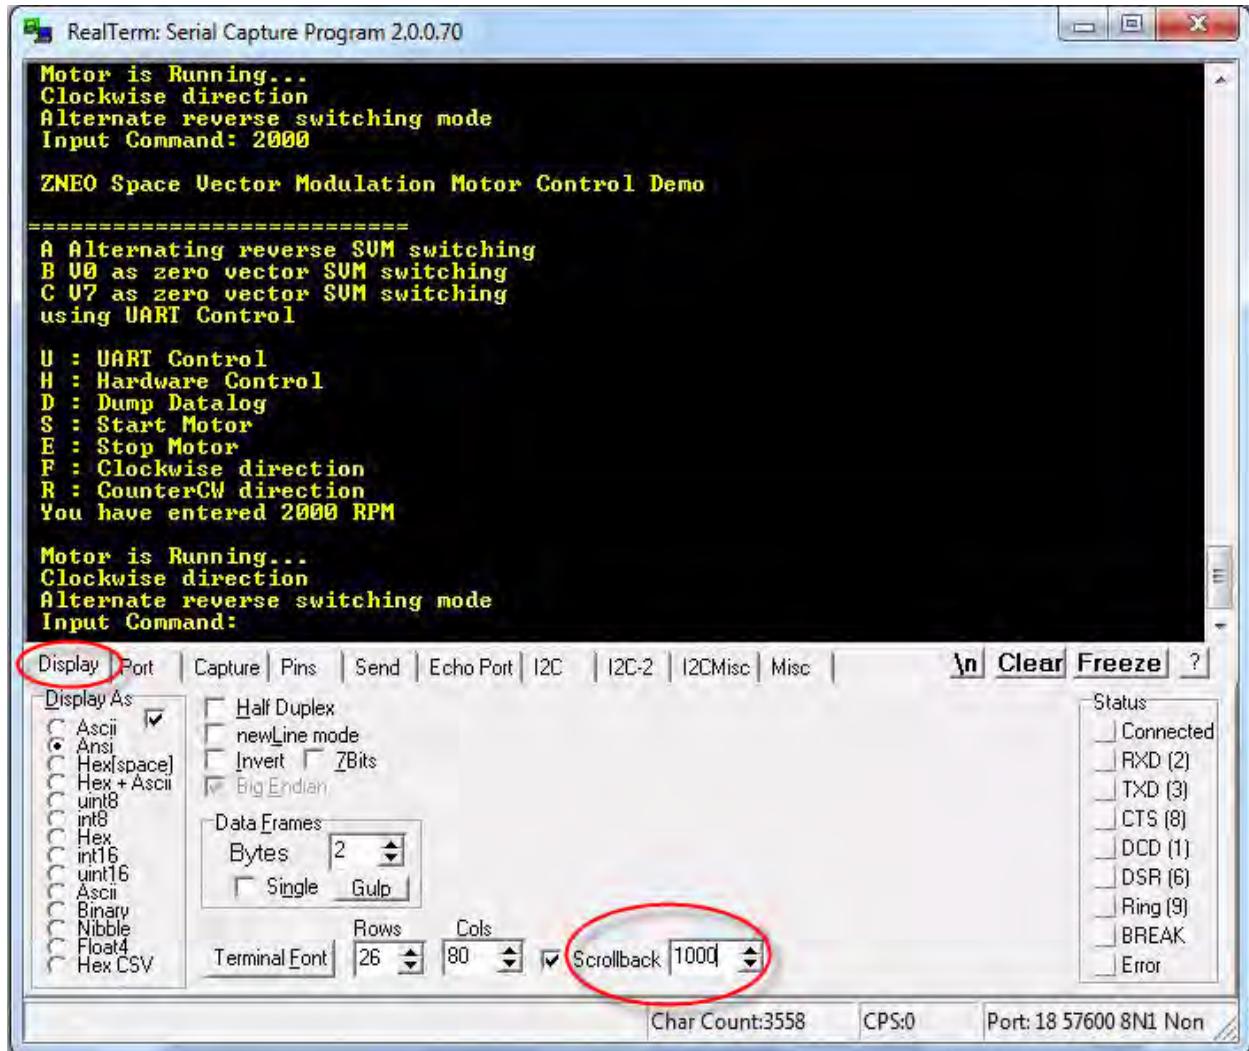

Figure 4. Select 1000 in the Scrollback Window Under Display Tab
10. In the **Scrollback** drop-down menu in the **Display** tab, select 1000 lines, as indicated in Figure 4.